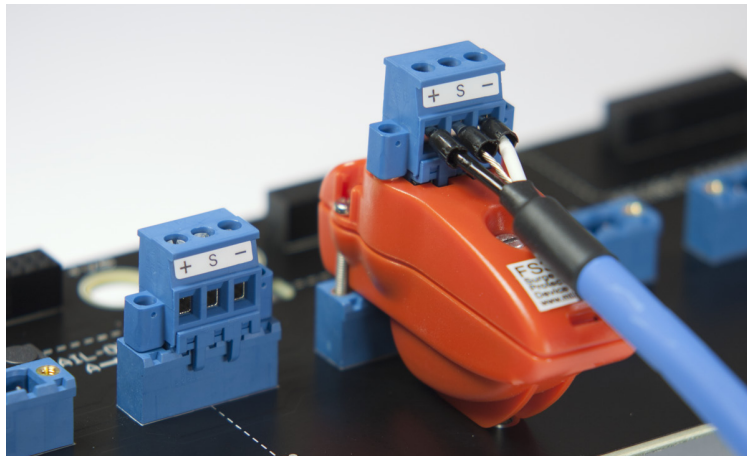

Figure 4.7 - FS32 spur surge-protection module fitted on spur connector
- d) Connect the prepared ends of the fieldbus trunk cable(s) into the appropriate '+', '-', and 'S' terminals, shown in Figure 4.7, and tighten the screw terminals to a recommended torque of 0.6 Nm.
Note: Figure 4.7 shows the screw-terminal '-PS' assembly option, but the '-PC' cage-clamp terminal arrangement is similar.
Refer to Figure 4.7 for additional details.